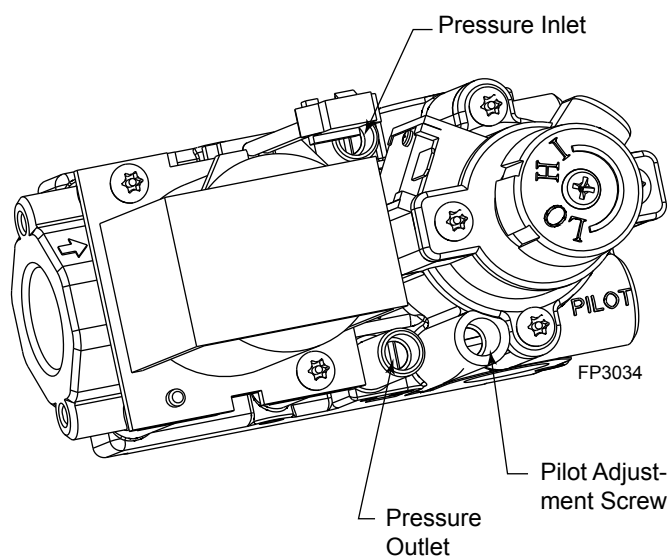

Figure 14. IPI Valve
4. To check gas pressures at valve, turn captured screw counter clockwise 2 or 3 turns and then place tubing to pressure gauge over test point. Turn unit to high. Figure 14 After taking pressure reading, be sure and turn captured screw clockwise firmly to reseal. Do not over torque. Check test points for gas leaks.